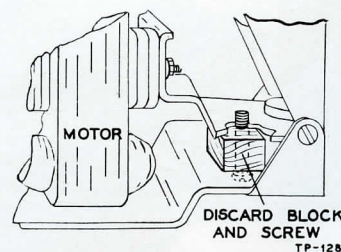

FIGURE 4. SHIPPING BLOCK—BACK END OF MOTOR
3. Remove the bolt and U-shaped wooden block from the back end of the motor. See figure 4.